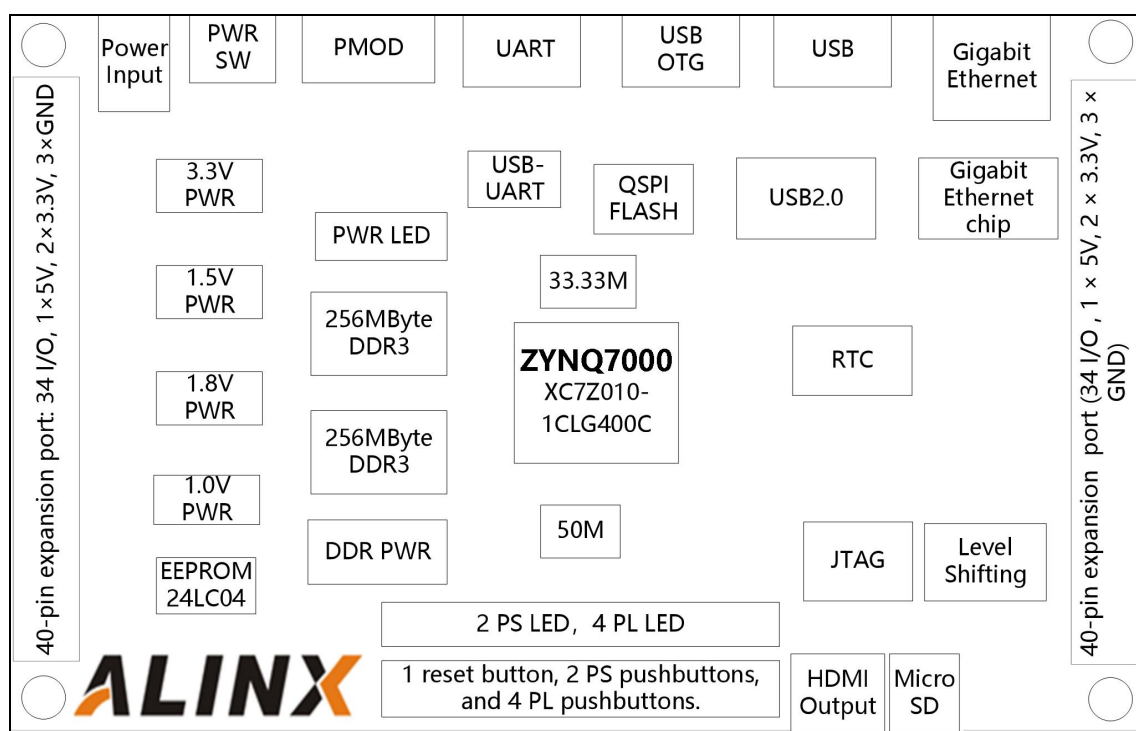

Figure 1.1.1 - Schematic diagram of AX7010 structure
This development board uses Xilinx's Zynq 7000 series chip , model XC7Z010-1CLG400C , in a 400-pin FBGA package. The Zynq 7000 chip can be divided into a Processor System (PS) and a Programmable Logic (PL) section. On the AX7010 development board, both the PS and PL sections of the Zynq 7000 are equipped with abundant external interfaces and devices, facilitating user operation and functional verification. Additionally, the development board integrates a Xilinx USB Cable programmer circuit, allowing users to download and debug code using only a USB cable. Figure 1.1.1 shows a schematic diagram of the entire AX7010 system.